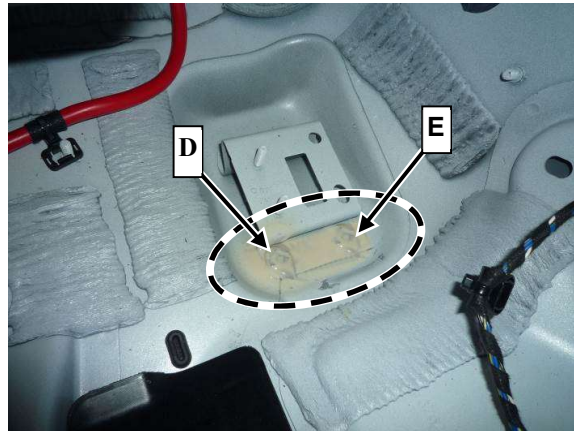

**Figure 8** (rivet D, view from below)
- Completed rivet should be visible from below after seam seal is applied (**Figure 8, D**)